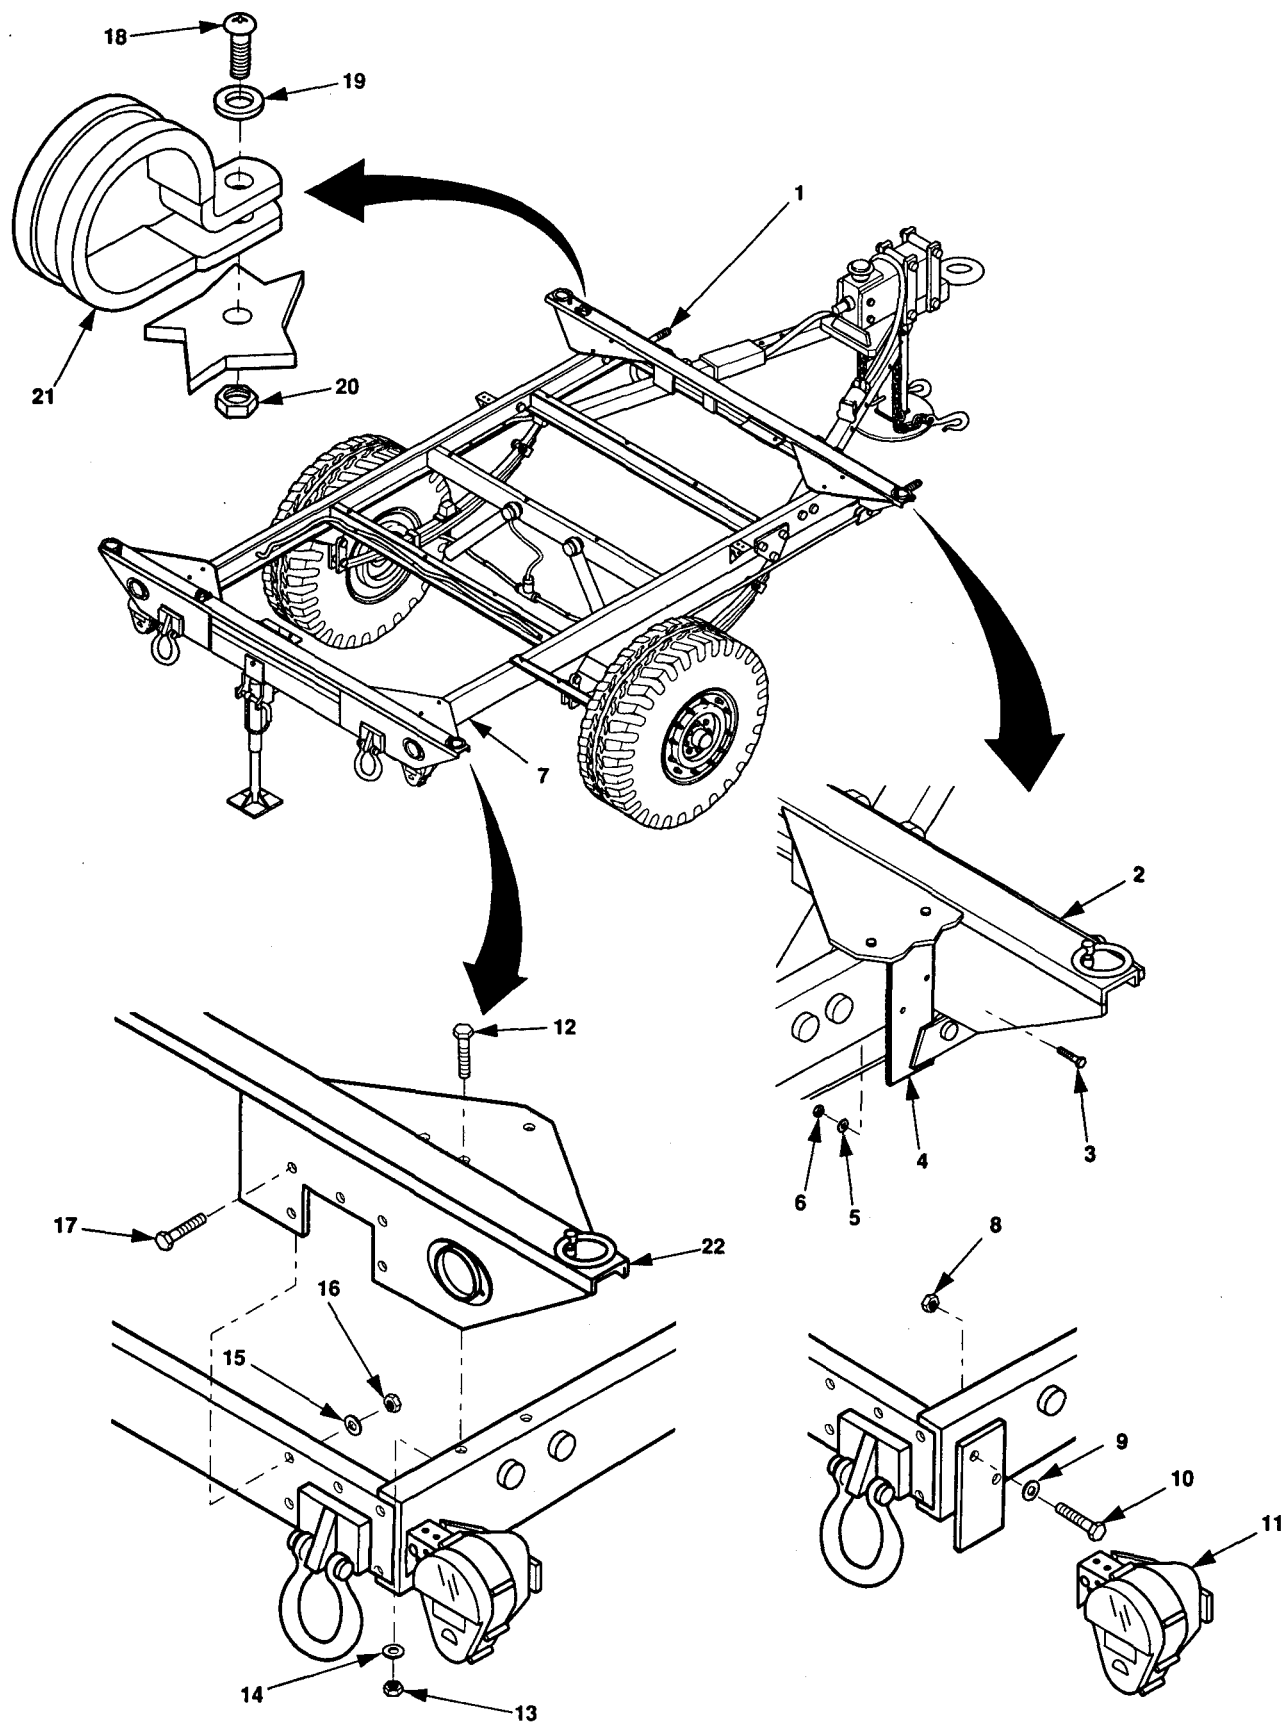

Figure 5-24. AN/MJQ-35 Trailer Lifting Bracket.
- b. Separate the power cable from front lifting bracket (2) by removing nut (20, figure 5-24 flat washer (19), and screw (18) from cable clamp (21).
- b. Separate the tail light bracket (11) from trailer chassis by removing two self-locking nuts (8), flat washers (9), and screws (10).
- c. Separate the power cable from rear lifting bracket (22) by removing nut (20, figure 5-24), flat washer (19), and screw (18) from cable clamp (21).
- d. Remove ten self-locking nuts (16), flat washers (15), and cap screws (17) from rear lifting bracket (22).